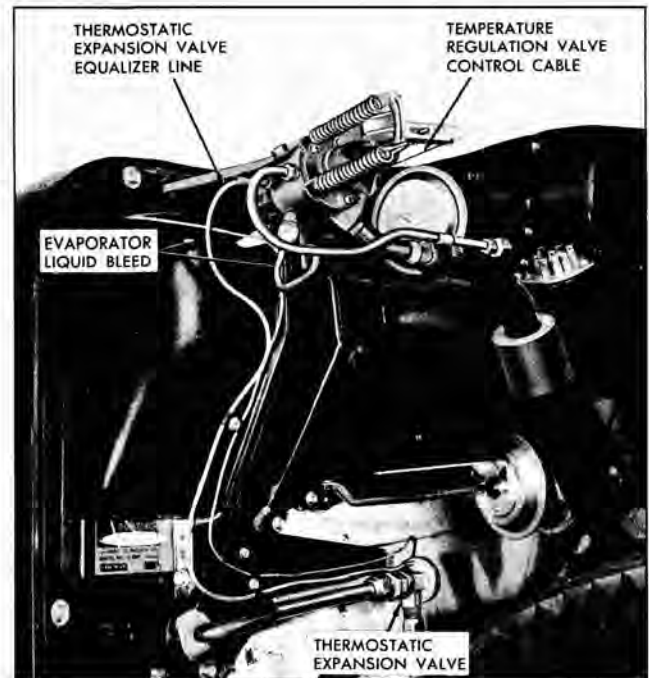

Fig. 5-101 Evaporator Assembly on Dash Shroud
6. Disconnect connection at thermostat expansion valve inlet and plug openings (Fig. 5-101).